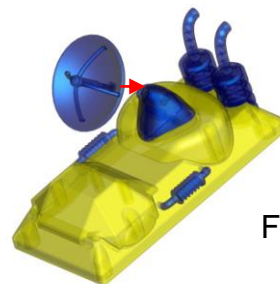

Fig. 9
7. Install the antenna of step 2 on the antenna support. (Fig. 9)